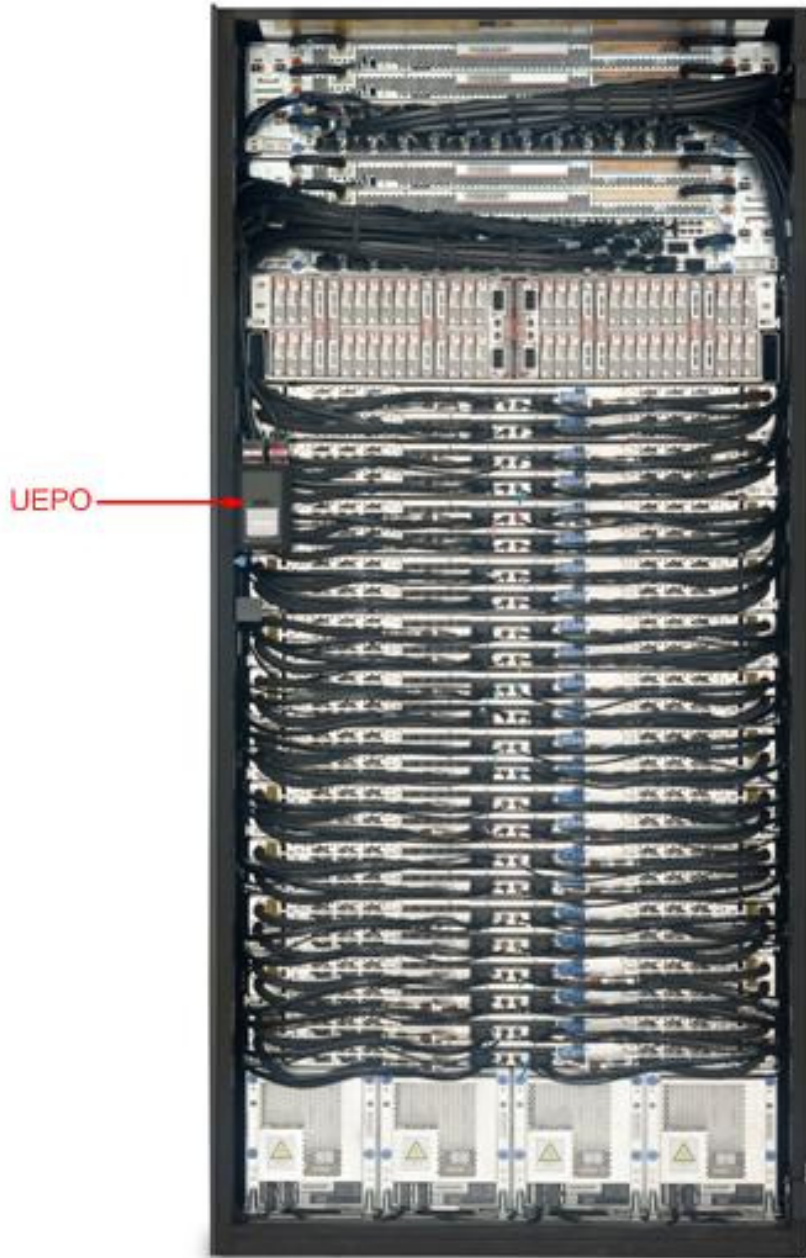
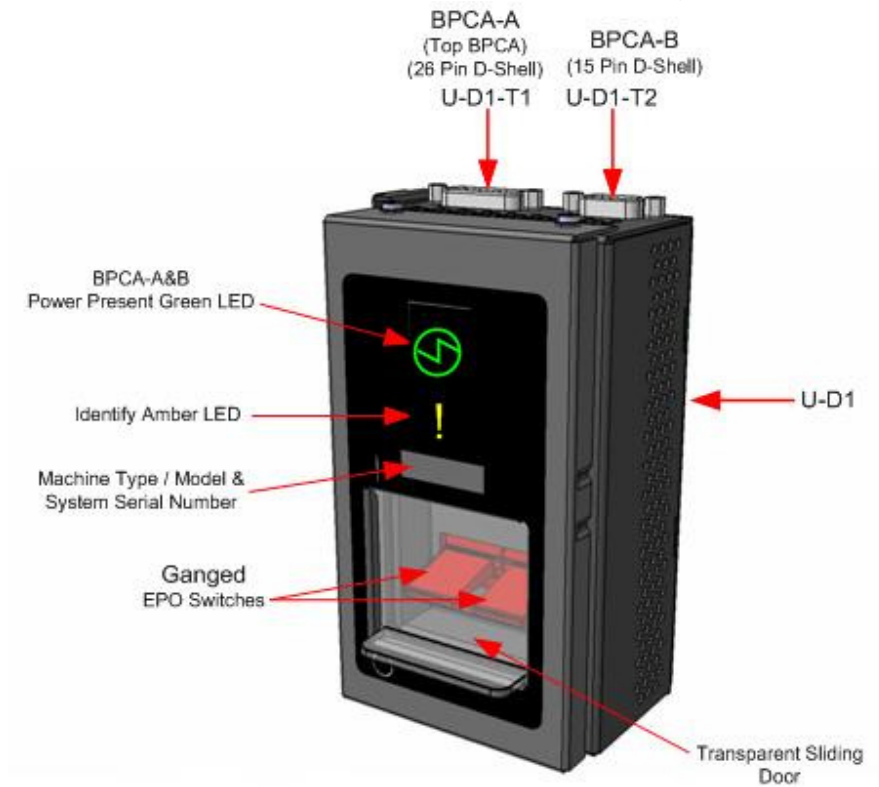

Figure 14 Frame Photo showing UEPO location
Figure 15 UEPO assembly showing frame Identify Amber LED
- STEP 3 Locate the frame. Confirm that it is the correct frame by checking that its UEPO Panel Identify LED is blinking. This LED is located on the UEPO panel and it is marked by the “!” symbol (see Figure 14 and Figure 15).